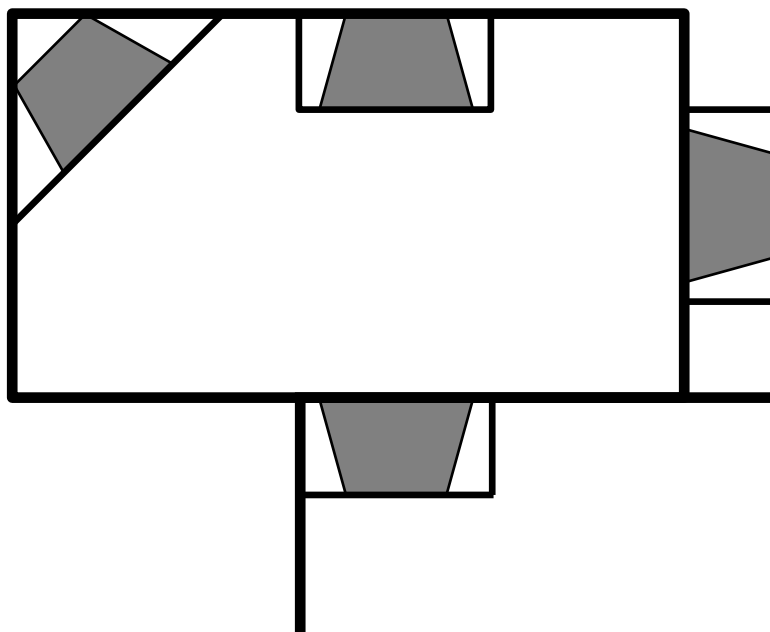

Figure 18 - Suggested Locations
- Minimize modifications to existing construction. See *Figure 18* below for location suggestions.